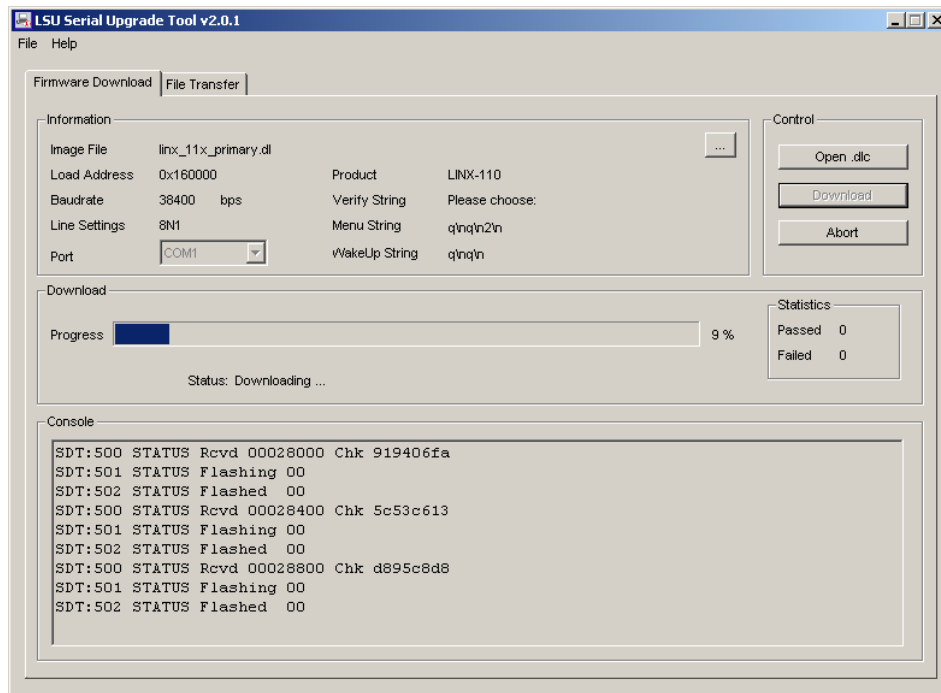

Figure 236: Progress Bar during Firmware Download.
2. If the device is not connected to COM1 you can change the port to COM2, COM3, or COM4. Make sure that the product shown under "Product" matches the device you are upgrading. Press **Download** to start the download. A progress bar as shown in Figure 236 can be seen.